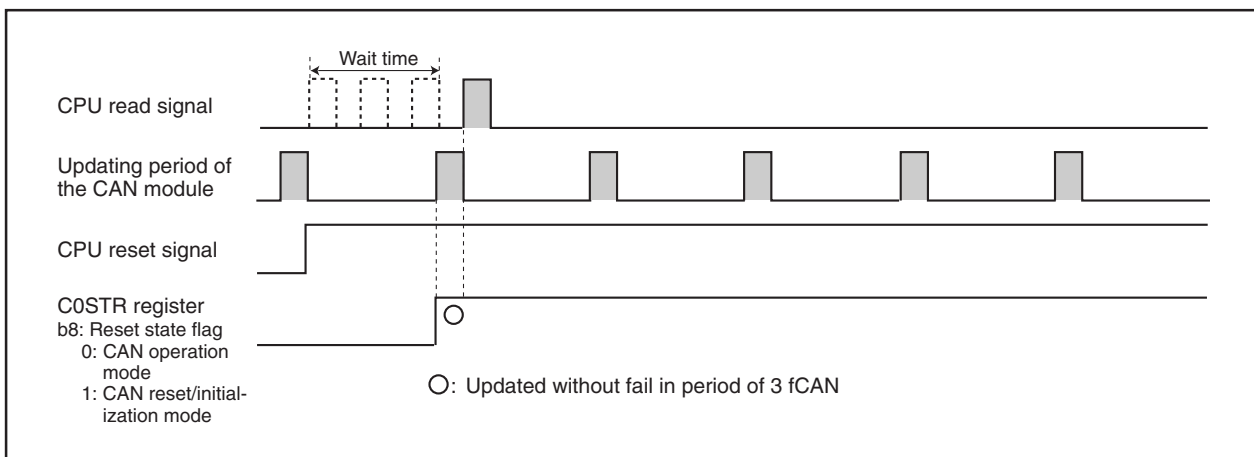

Figure 23.6 With Wait Time of 3 fCAN Before CPU Read
- (a) There should be a wait time of  $3f_{CAN}$  or longer (see **Table 23.2 CAN Module Status Updating Period**) before the CPU reads the C0STR register. (See **Figure 23.6 With a Wait Time of  $3f_{CAN}$  Before CPU Read.**)